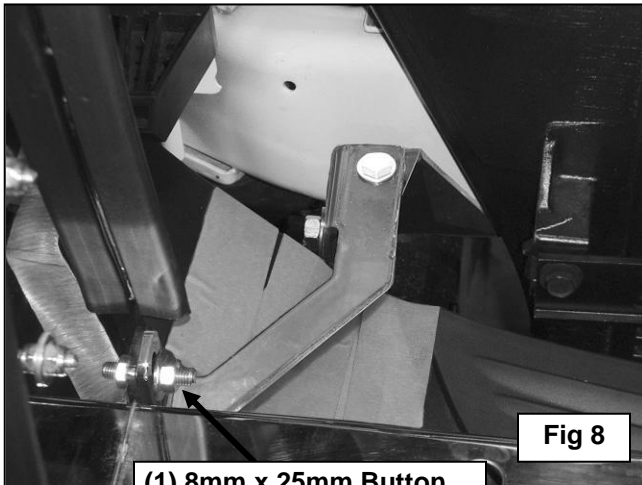

Fig 8
10. Next, hold the spoiler up to the bumper cover and align it with the mounting points. Mark the location of the Mounting Brackets onto the spoiler, **(Figure 8)**. Cut an approximately 1/2" wide slot in the lower portion of the spoiler to clear the Mounting Brackets. **NOTE:** The size of the slot is an estimate only and may vary due to different factory designs for the spoiler and front bumper covers. **IMPORTANT:** To maintain the integrity of the spoiler, do not cut the slot any larger than necessary. Do not cut through the mounting surface. It is recommended to make several small cuts and check the fit often for a clean installation.